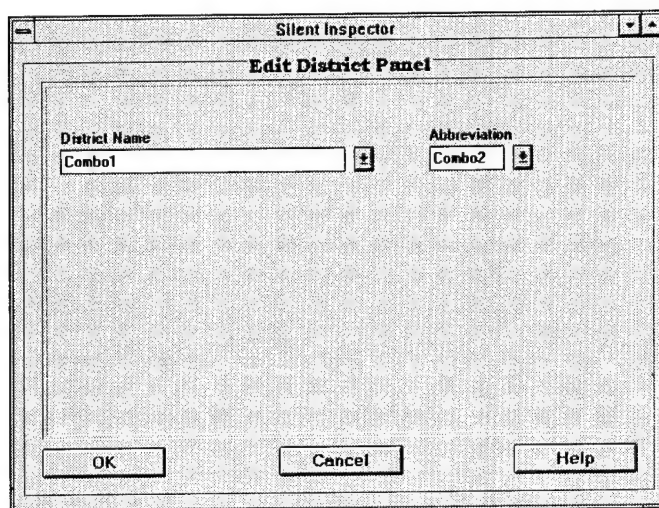

Figure 14. **Edit District Panel** screen
- Click on **Edit** under the **District** menu, and the **Edit District Panel** screen (Figure 14) will appear.